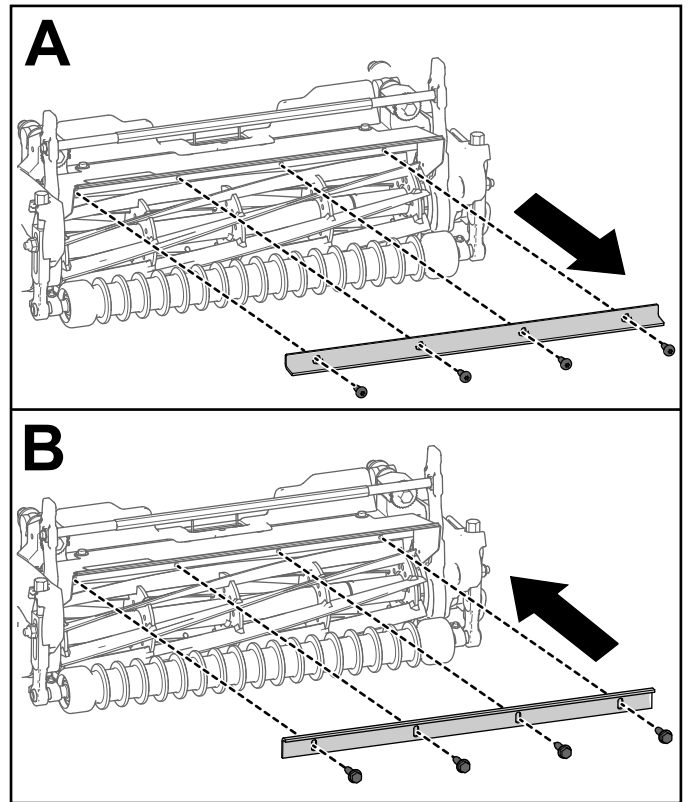

Figure 5
- If Cutting Unit Model 04657 is used on any other Greensmaster 3300 or 3400 traction unit, remove the grass-deflection bar and replace it with cut-off bar (Part No. 115-3303-03) and 4 bolts (Part No. 131-6150) as shown in Figure 5.